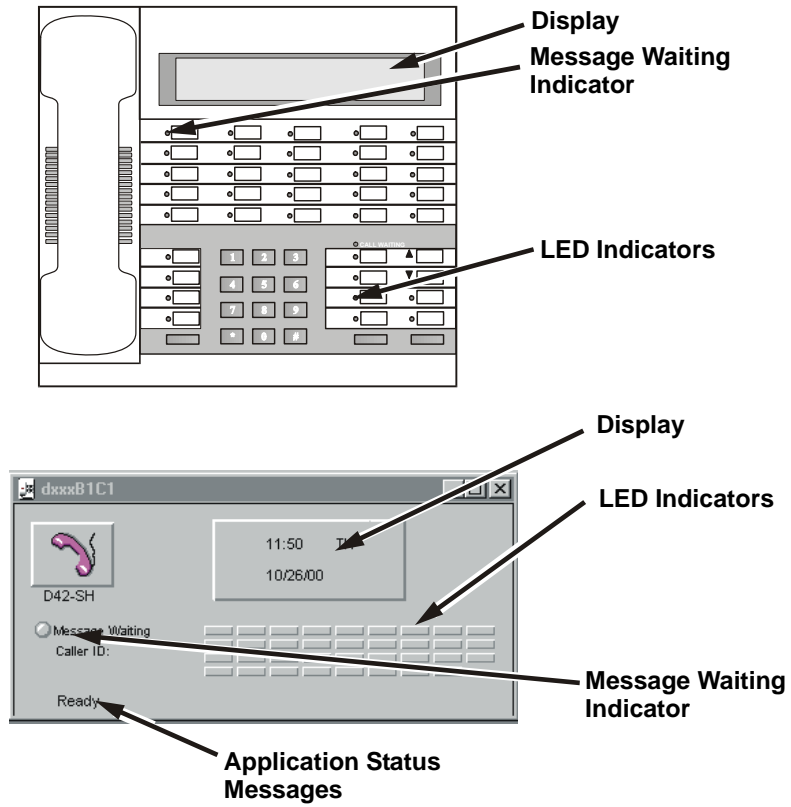

Figure 25. ROLMphone Window on the D42 Demo
13. Choose a channel connected to the PBX and press **OK** (Example: dxxxB1C1). A window is displayed that simulates the appropriate phone set for your PBX. See *Figure 25* for an example.